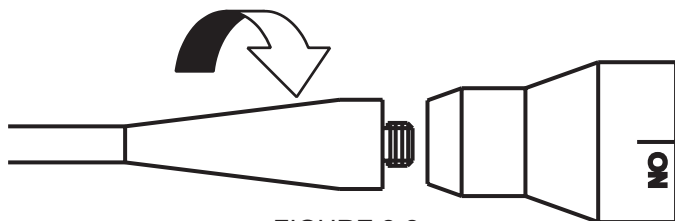

FIGURE 2-2
2. Attach the proper bore rod assembly by carefully threading it into the rear of the Switch Assembly. Tighten securely. See, Figure 2-2 below.